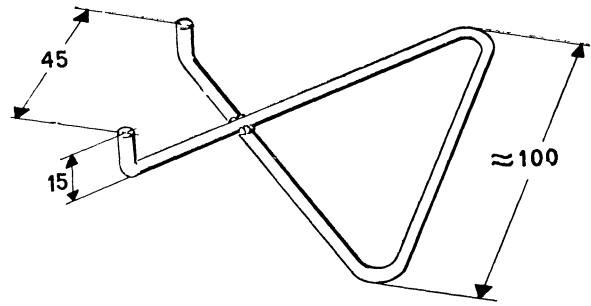

Fig. 2-87. Puller for plug contact
5. Make a puller like the one shown in Fig. 2-87. Hook in the puller, see Fig. 2-88, and pull out the plug contact carefully.